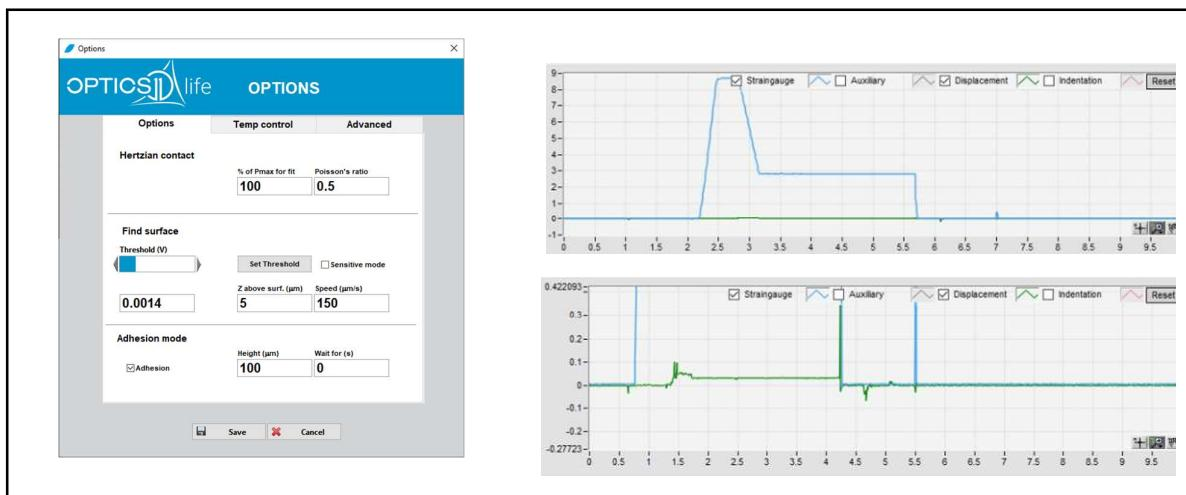

Figure 23: Find Surface options window. Piezo and cantilever signals during the “Find Surface” step
In the ‘Options’ menu (Figure 23 left) the settings of the automated find-surface procedure can be adjusted:
- ◆ **Z above surf. (μm)** is the distance that the probe is retracted after the surface is found. If this distance is too small, the measurements will start in contact with the sample as shown in Figure 23 E, F, which could be due to 1) not ideal match between the probe and sample stiffness (probe is too stiff), 2) threshold is too high, 3) sample is adhesive. For load-indentation curves that start in contact, the contact point between the sample and the probe is unknown and is placed at the beginning of the load-indentation curve. For the correct contact point estimation, an approach distance to the sample is needed to fit the Hertz model (red line). This is shown in Figure 23Error! Reference source not found. D from which the contact point is given as one of the fitting parameters.